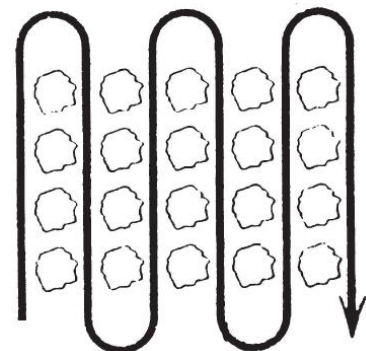

Figure 17
You can use the DR ROTO-HOG Power Tiller for cultivating (**Figure 17**), which requires a minimum of two (2) inches of soil penetration.
- Set the tines so they will penetrate the soil to a depth of two (2) to three (3) inches.